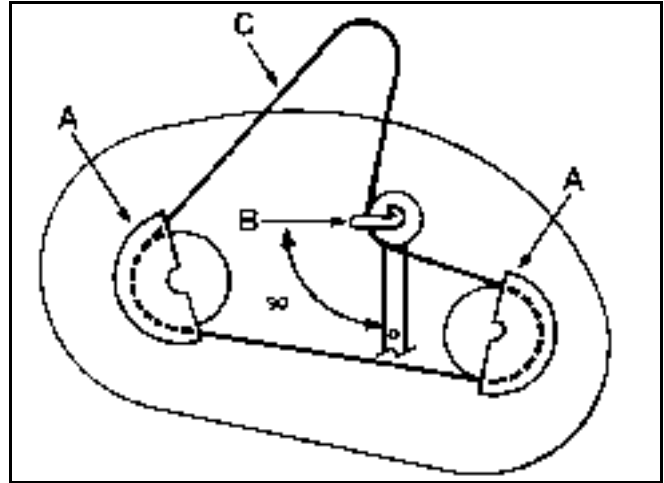

Figure 221
2. Remove the pulley cover mounting screws and pulley covers from both blade pulleys (Figure 221).
3. Loosen, but do not remove the bolt and nut securing the idler pulley and belt guide (Figure 221).
2. Position the idler pulley belt guide so it points toward the left, 90° to the idler arm (Figure 221). Tighten the mounting bolt and lock nut securing the idler pulley and belt guide.
3. Install the left and right pulley covers with the mounting screws (Figure 221).